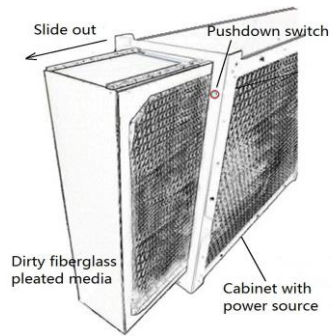

Fig. 6
- Open the door of the unit and remove the old pleated media (Fig.6).